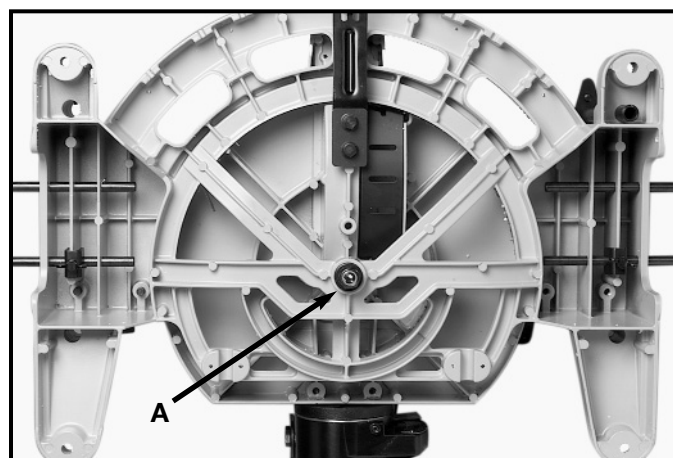

Fig. 14
2. To adjust the sliding fit between the movable table and the base, turn nut (A) Fig. 14, clockwise to increase the sliding fit (opposite to decrease the fit). This adjustment should not be so tight that it restricts the rotating movement of the table, or so loose that it affects the accuracy of the saw.